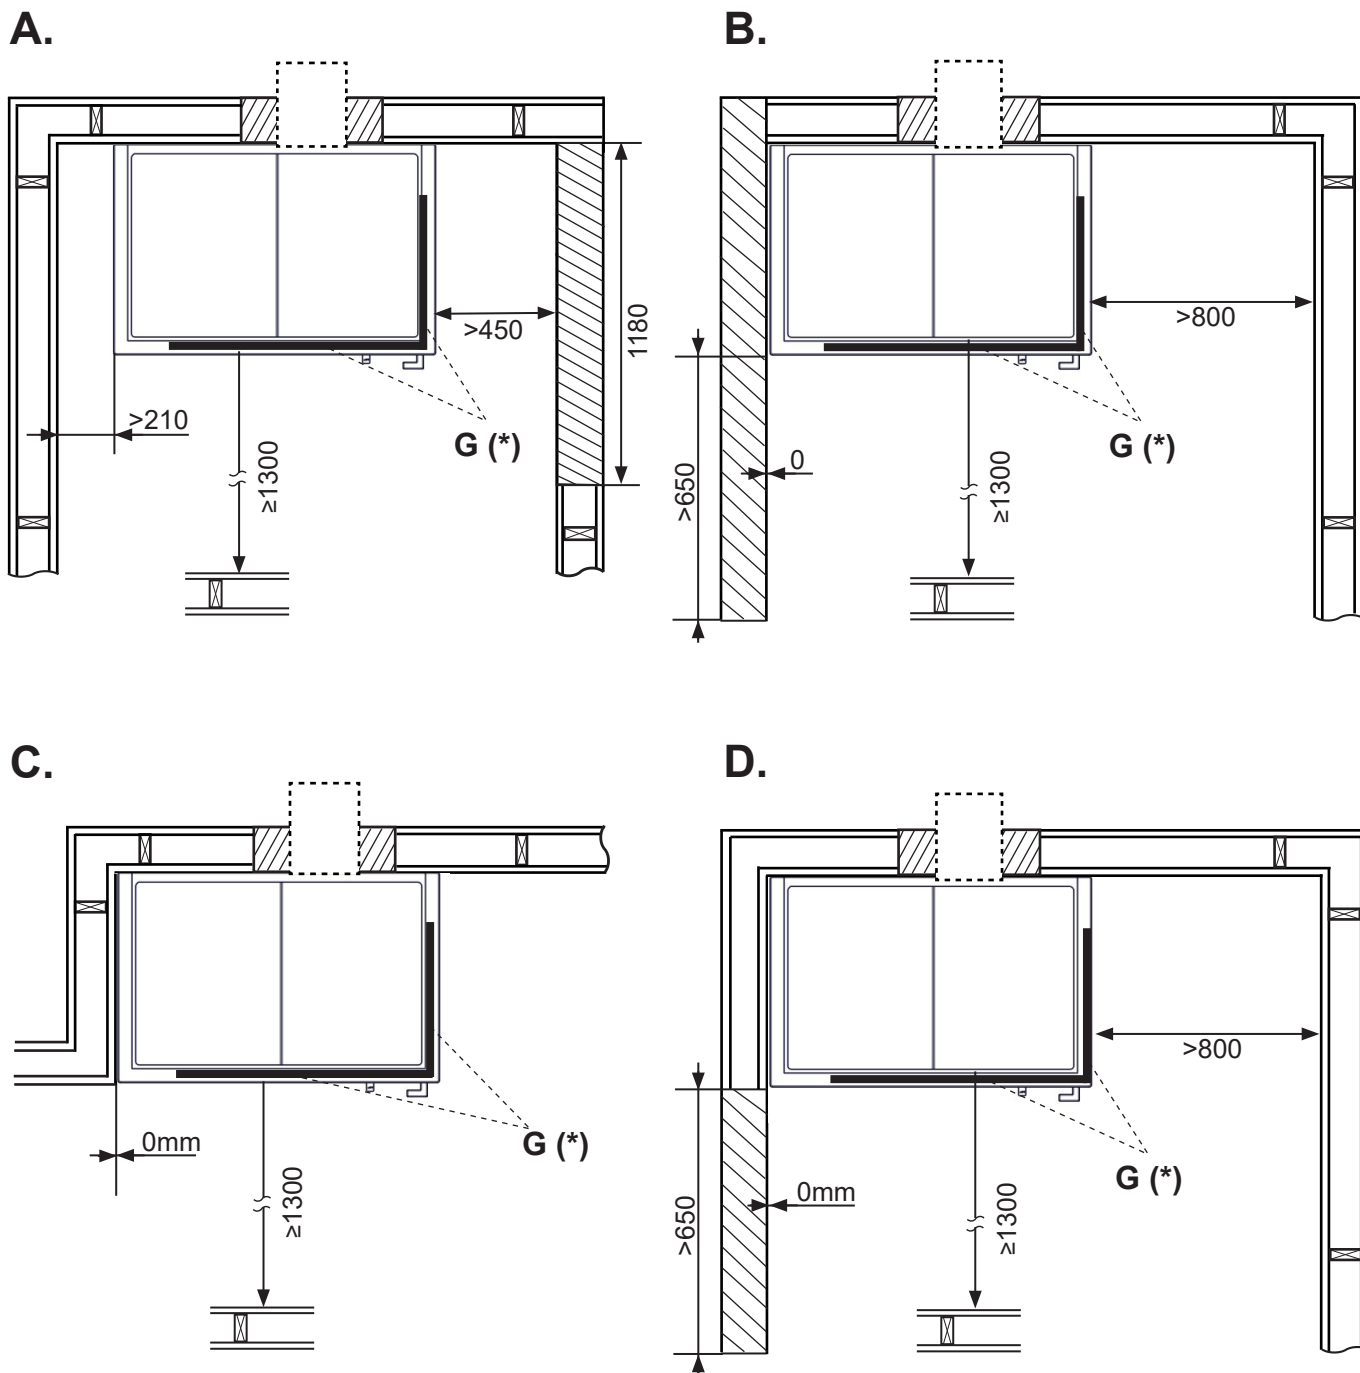

**FIG 2****Davos A High\_N-29A**
#### Sicherheitsabstand zu brennbarem Material (FIG 2)
### Distances de sécurité (FIG 2)
**FIG 2 a****Davos A High\_N-29A**
\*→ FIG 2 C